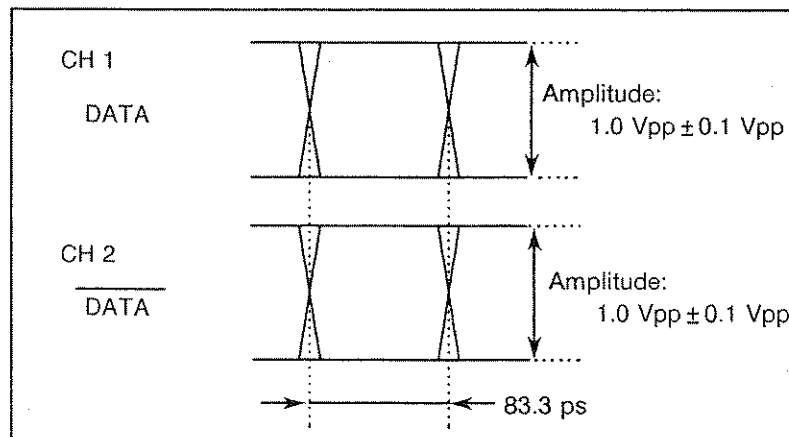

Figure 8-16 DATA,  $\overline{\text{DATA}}$  Output Waveform (AC,  $f = 12000$  MHz)
- (8) Normal when the waveform is eye patterns as shown in Figure 8-16.